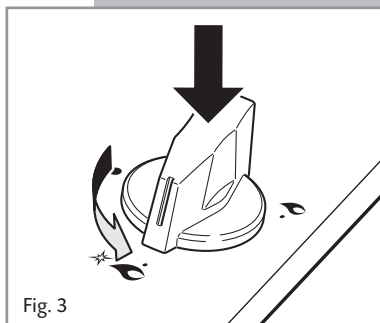

Fig. 3
- 1 – Press in the corresponding knob and turn counter-clockwise (fig. 3) to the full flame position marked by the  symbol and hold the knob in until the flame has been lit.